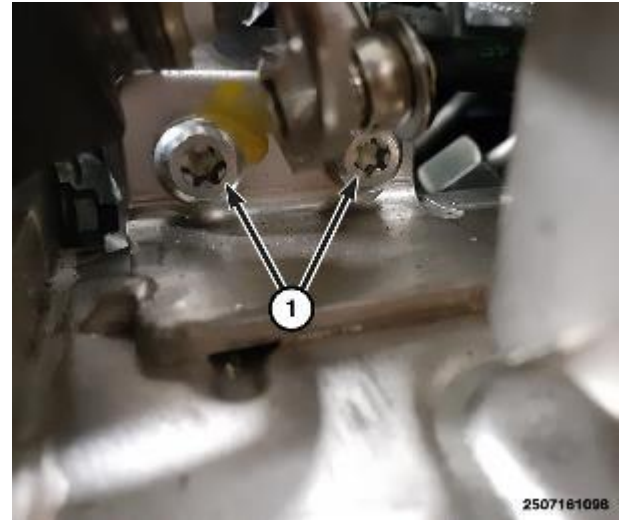

Figure 138 – Vacuum Actuator Screws
75. Remove the vacuum actuator with heat shield screws (1) and position aside the vacuum actuator (Figure 138).
98. Install the vacuum actuator with heat shield screws (1) (Figure 138).